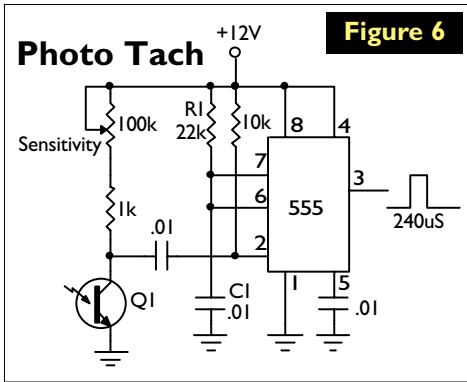

Figure 6
A. Simply replace the 4N25 optoisolator with a phototransistor. To increase sensitivity and reduce noise, I put the phototransistor at ground level and moved up the "biasing" resistor to Vcc (Figure 6). Every time the transistor sees white, the 555 monostable multivibrator outputs a 240 μ S pulse. To change the width of the output pulse, adjust the values of R1 and C1 using the formula: $t = 1.1(R1 \times C1)$.